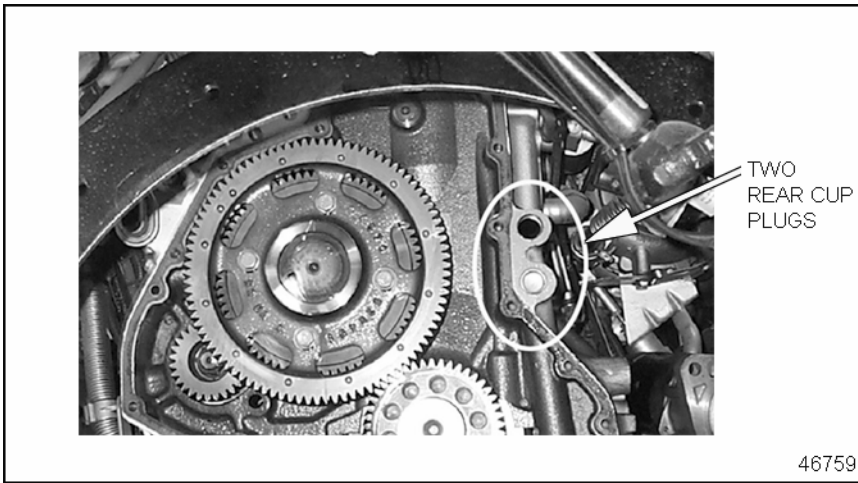

Figure 2 Removal of Two Rear Cup Plugs
8. Remove the cup plug(s) using the following procedure. Make sure not to damage the plug bores in the cylinder block. See Figures 2 - 4.